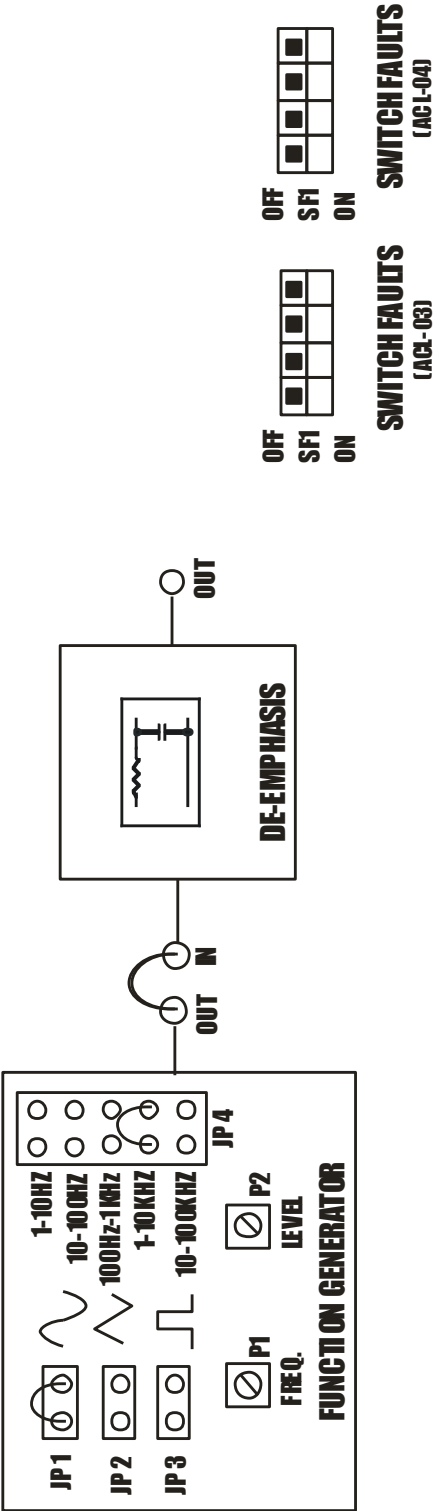

FIG.4.1 BLOCK DIAGRAM FOR STUDY OF DE-EMPHASIS
- Make the connections as shown in the block diagram Fig.4.1.